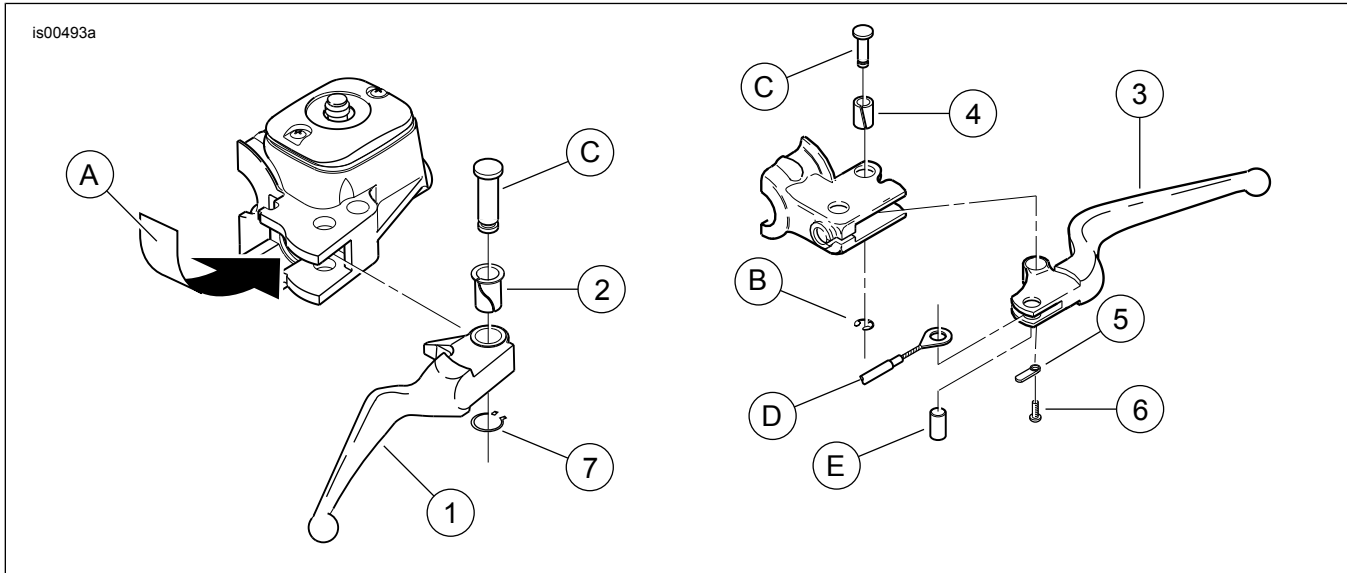

Figure 2. Service Parts: Hand Control Lever Kits
See Figure 2 and Table 1.
2. See the Figure 2 and the FRONT BRAKE MASTER CYLINDER section of the Service Manual. Remove the retaining ring (B) from the groove in the pivot pin (C). Inspect the retaining ring (part number 11143) and replace if needed.
4. Insert the pivot lever bushing (2) from the kit into the new brake lever (1).